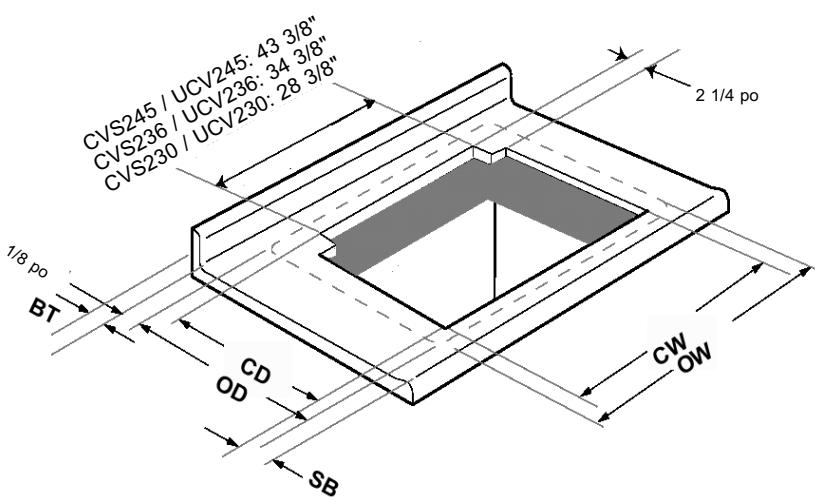

Fig. 8
B. FOR INSTALLATION WITH ANOTHER BRAND OF COOKTOP (Figure 8)
See Figure 8 for CVS2 / UCV2 cutout widths and dimension definitions.
6. Cut countertop using dims: CD, CW and SB as defined in Figure 8.